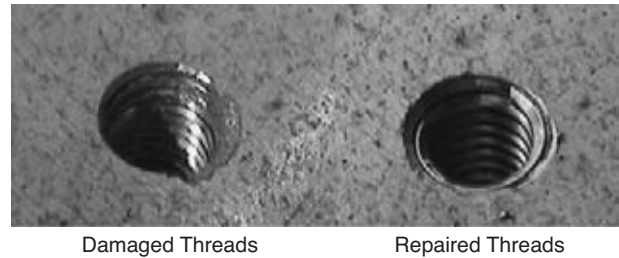

FIGURE 8-88 The damaged threads (left) have been repaired (right) by installing a thread insert. They are better than new because of the hardness of the insert.
2. Place the insert onto the installing tool, and thread it into the hole until the outside end of the thread enters the case threads (Figure 8-88).